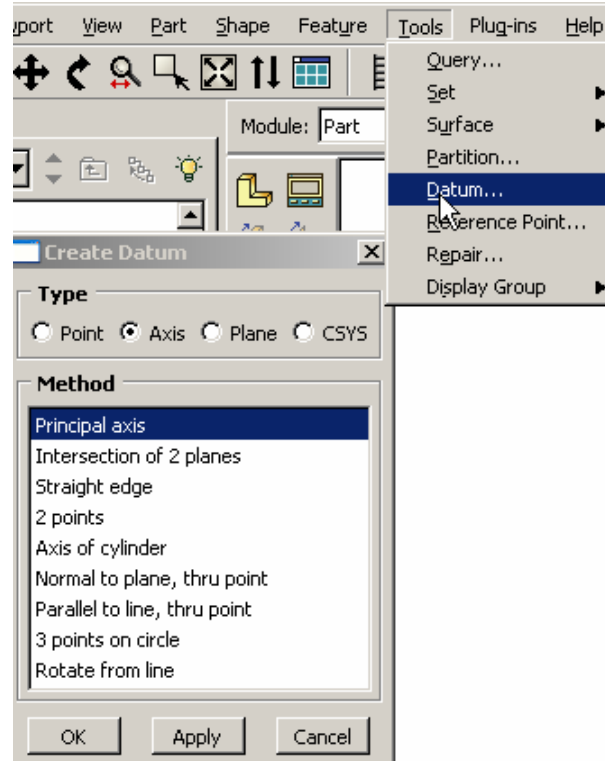

Figure W-12
11. Create a datum axis along Y-Axis by selecting **Tools** → **Datum** → **Axis** → **Principal axis** as shown in figure W-12, click **Ok** and then select **Y-Axis** from the prompt area.